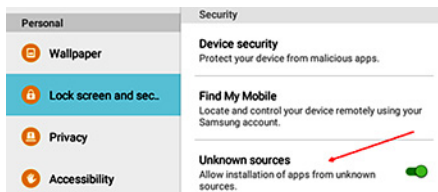

Figure 4: Security Settings
2. If the APP is from an SD card or the Panametrics website, enable the security option in the tablet’s settings (see Figure 4 below) to allow the installation of software from “Unknown sources” for this installation only.